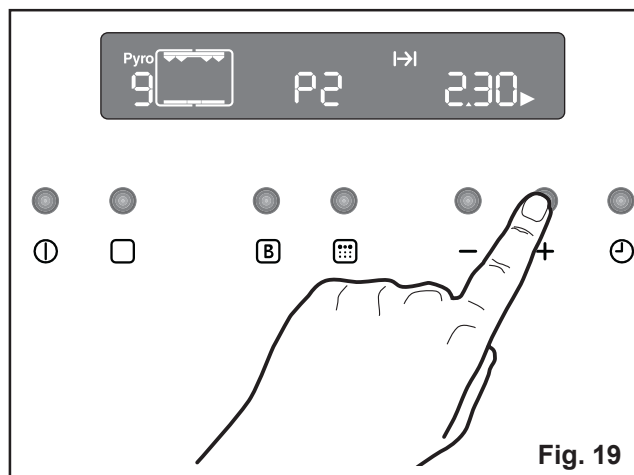

Fig. 19
2. The Cooking Duration symbol  will flash for 5 seconds; during this time push '-' or '+' buttons to select the pyrolytic 1 (P 1) or pyrolytic 2 (P 2) function (Fig. 19).
3. Once you have chosen the desired pyrolytic function, the "Pyro" writing will flash on the display waiting for confirmation to start the pyro cleaning function. If '-' or '+' buttons are pushed, the Cooking Duration symbol  will flash again to allow you to change the pyro selection (P 1 or P 2) (Fig. 19).